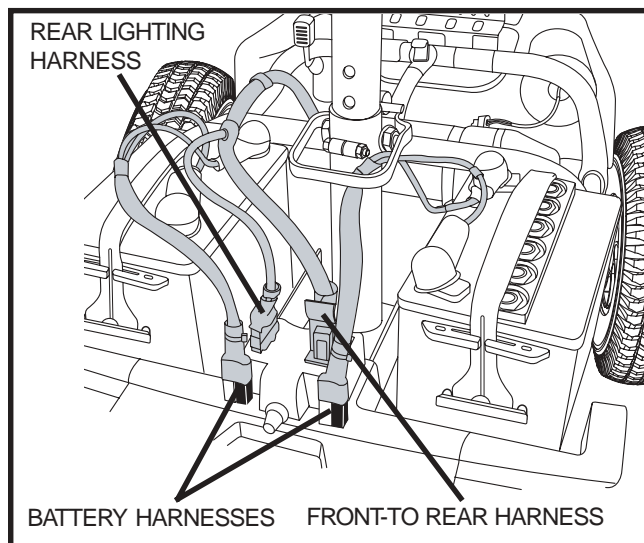

Figure 20. Harness Connections
6. Unplug both battery harnesses. Pull each harness straight up. See figure 20.
6. Connect the front-to-rear harness, rear lighting harness and both battery harnesses. See figure 20.